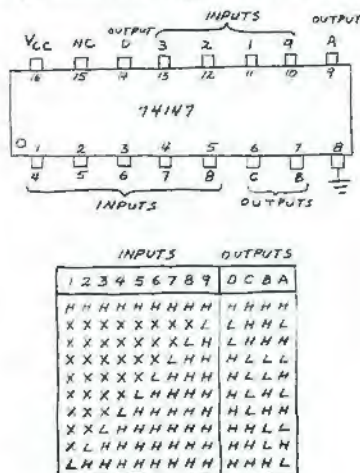

Fig. 2. Pin outline and truth table for the 74147.
Figure 2 shows both the pin outline and truth table of the 74147. Notice that an active input is low (L) while an inactive input is high (H). The status of each input below that with the highest priority is irrelevant. Therefore, these "don't care" states are indicated by X's.